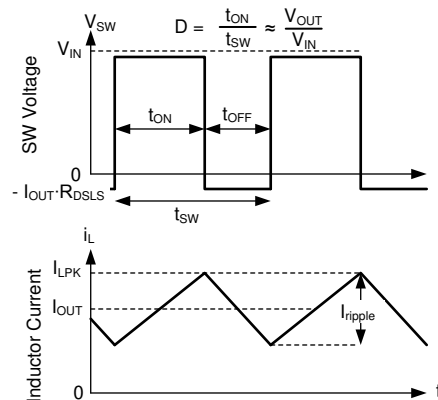

Figure 8-16. SW Voltage and Inductor Current Waveforms in Continuous Conduction Mode (CCM)
The following operating description of the LMQ644xx refers to Functional Block Diagram and the waveforms in Figure 8-16. Both supply a regulated output voltage by turning on the internal high-side (HS) and low-side (LS) NMOS switches with varying duty cycle (D). During the HS switch on-time, the SW terminal voltage, V_{SW} , swings up to approximately V_{IN} , and the inductor current, i_L , increases with a linear slope. The HS switch is turned off by the control logic. During the HS switch off-time, t_{OFF} , the LS switch is turned on. Inductor current discharges through the LS switch, forcing V_{SW} to swing below ground by the voltage drop across the LS switch. The regulator loop adjusts the duty cycle to maintain a constant output voltage. D is defined by the on-time of the HS switch over the switching period: $D = T_{ON} / (T_{ON} + T_{OFF})$.